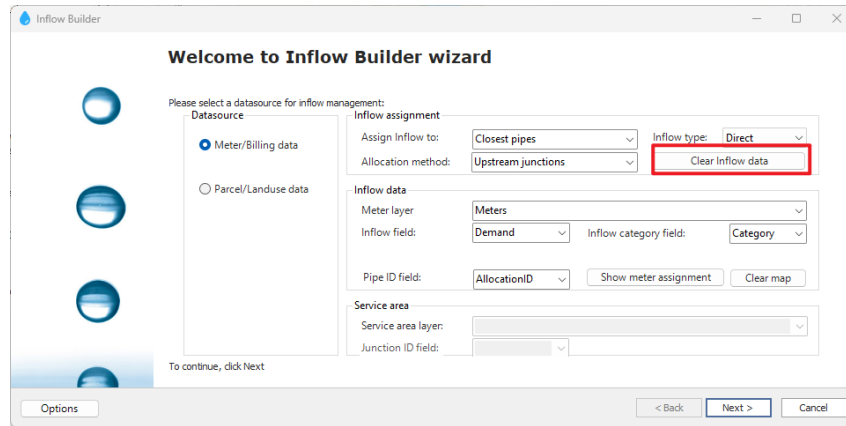
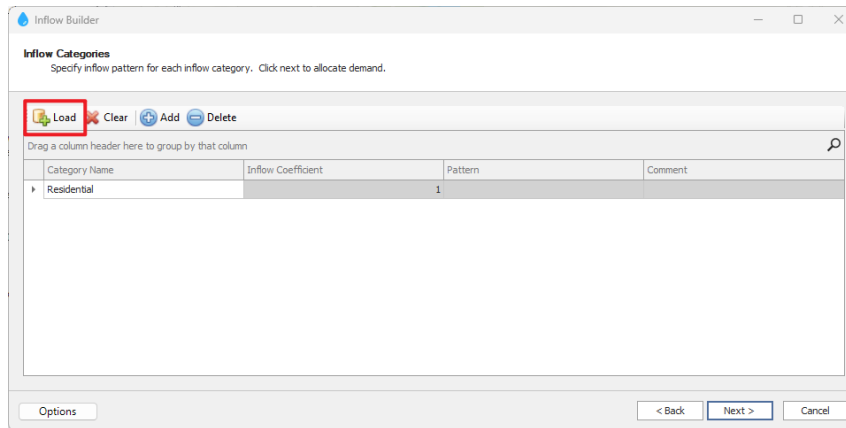

Figure 10: The Inflow Builder window in AquaTwin Sewer.
Figure 11: The Inflow Categories window in the Inflow Builder.
2. Click *Clear Inflow Data* as highlighted in **Figure 10** and then *Yes*. This will clear **all** inflow data. To remove inflows using an ArcGIS selection, use the inflow tables as described in the previous chapter.
6. Reopen the Inflow Builder and fill out the Inflow Builder as shown in **Figure 10**.
8. Click **Load** (**Figure 11**). All the unique categories names will be loaded from the category field in the Meters layer from **Figure 10**). Each category type can be assigned a different coefficient and pattern.